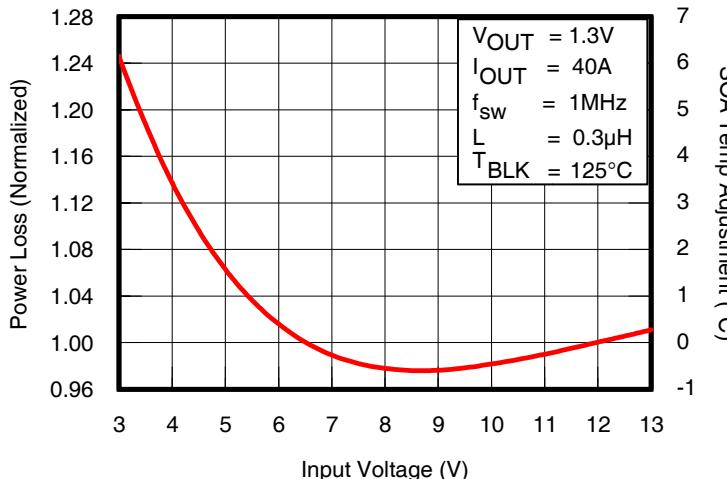

Fig. 3: Normalized Power Loss vs.  $V_{IN}$
To calculate power loss for a given set of operating conditions, the following procedure should be followed: Determine the maximum current for each iP2003 and obtain the maximum power loss from Fig 1. Use the curves in Figs. 3, 4, 5 and 6 to obtain normalized power loss values that match the operating conditions in the application. The maximum power loss under the operating conditions is then the product of the power loss from Fig. 1 and the normalized values.
To calculate the SOA for a given set of operating conditions, the following procedure should be followed: Determine the maximum PCB temperature and Case temperature at the maximum operating current of each iP2003. Obtain the SOA temperature adjustments that match the operating conditions in the application from Figs. 3, 4, 5 and 6. Then, add the sum of the SOA temperature adjustments to the  $T_x$  axis intercept in Fig 2.
- (Fig. 3) Normalized power loss for input voltage  $\approx 0.98$
- (Fig. 3) SOA Temperature Adjustment for input voltage  $\approx -0.5^{\circ}\text{C}$